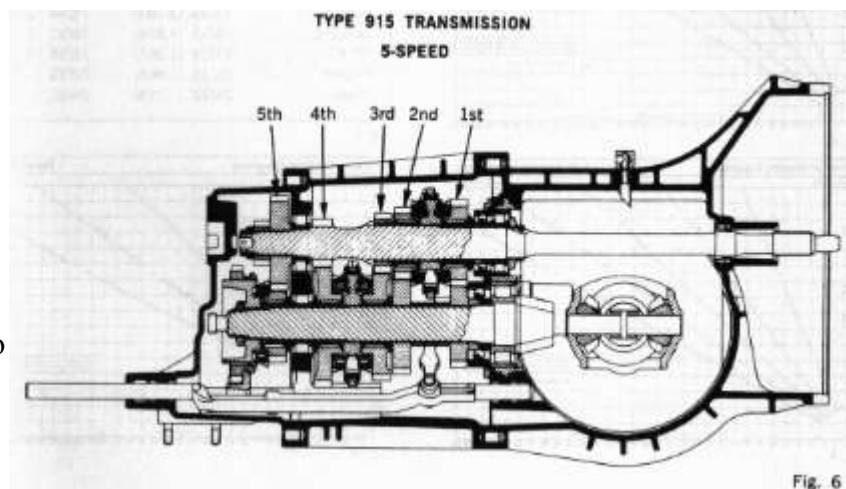

Fig. 6
Figure 6 is a sectional drawing of the 5-speed type 915 transmission and shows the position of the five gear sets. In the previous 911 and 912 5-speed transmissions (type 901, 902) second gear was integral with the main (input) shaft, and necessitated changing this shaft to the 904 type shaft before the second gear ratio could be changed. This has been changed in the type 915 so that first gear is integral with the main shaft, thus making second thru fifth ratios easily changed. If a 915 first gear
3. The front main oil seal is installed as per Figures 6 & 7. This is backwards from intuition and requires transmission disassembly for replacement (This is to be changed in future production).